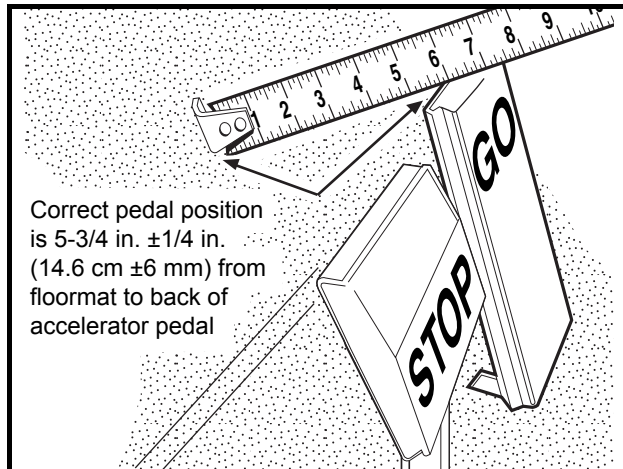
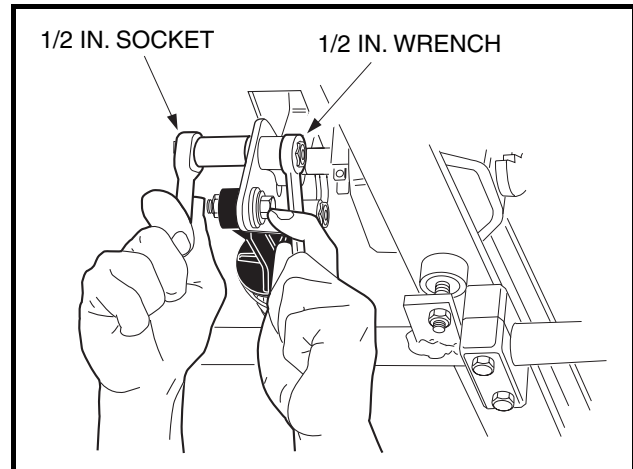
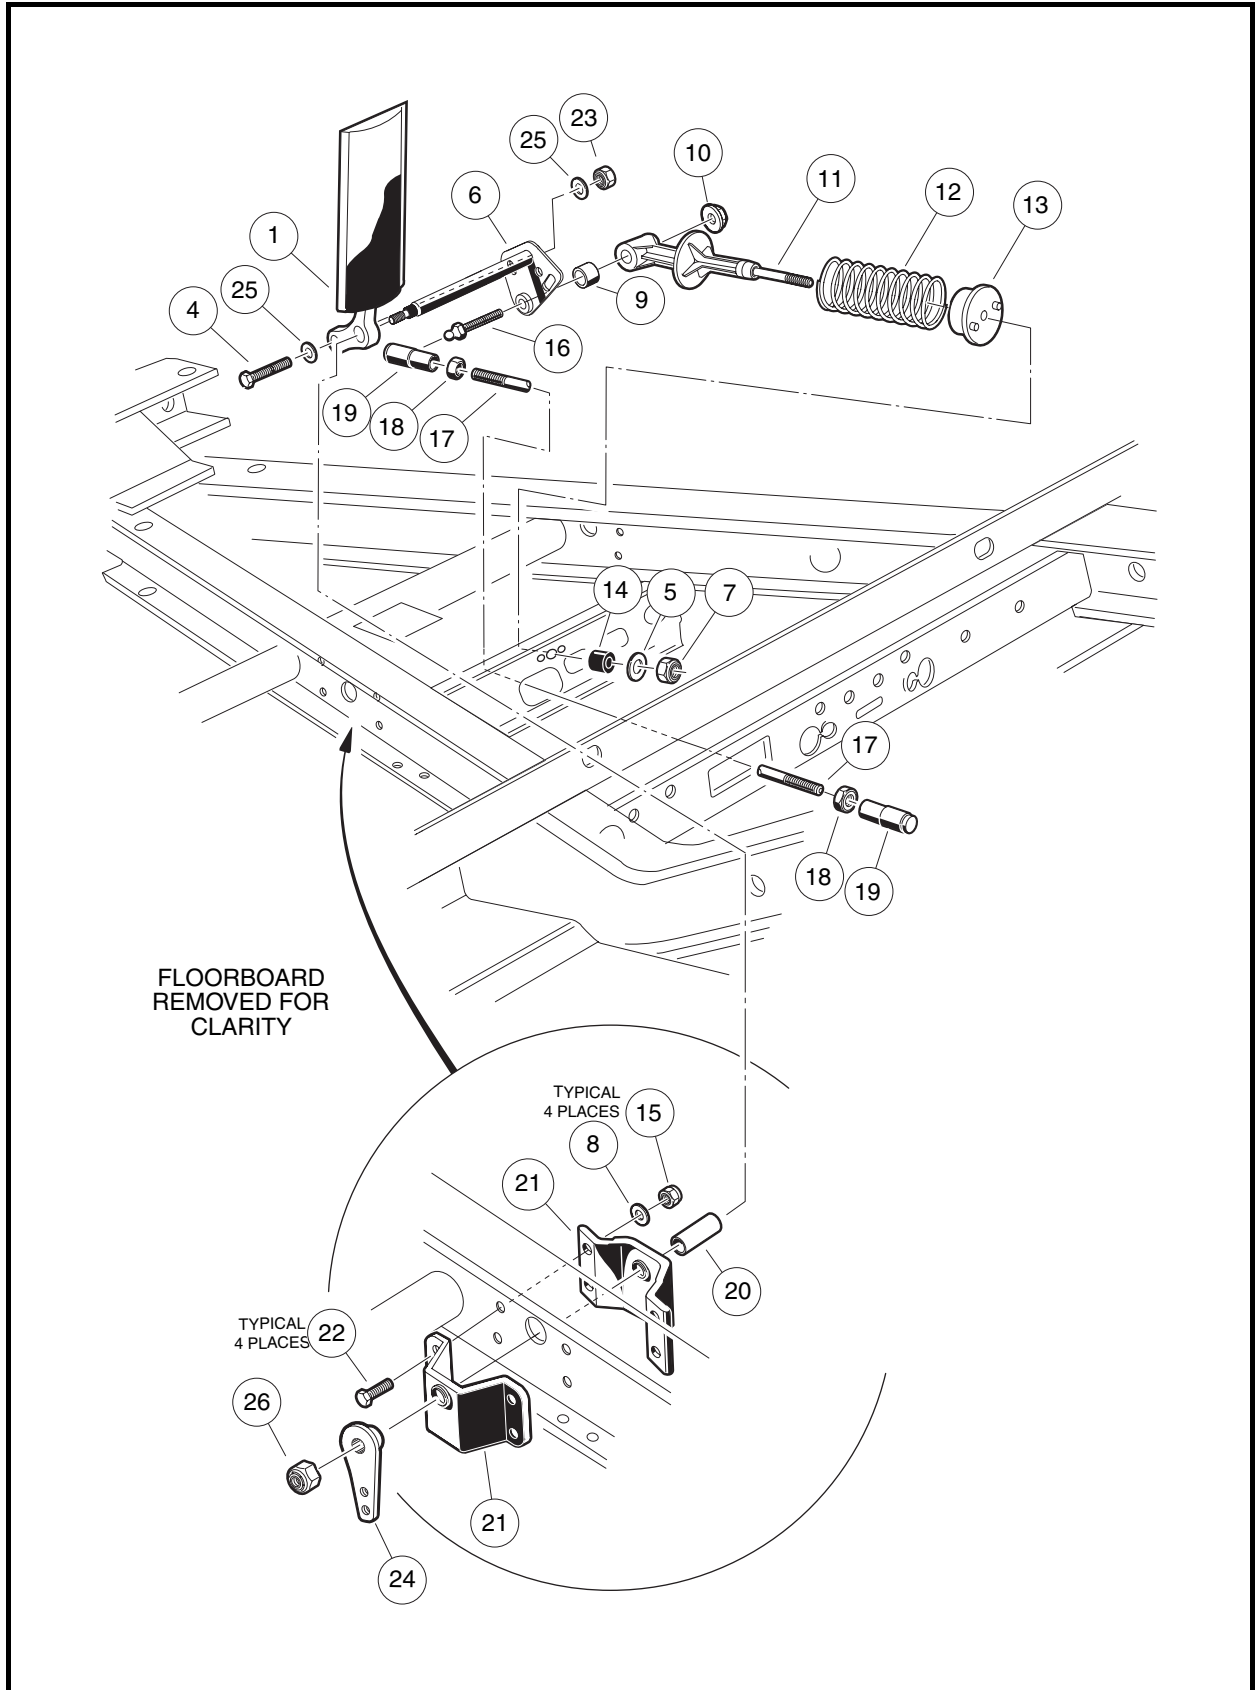

Figure 5-7 Accelerator Pedal Height
Figure 5-8 Accelerator Pedal Adjustment
Figure 5-11 Accelerator Pedal Assembly
4. Use a 9/16-inch socket and 9/16-inch wrench and remove the nut (23), two washers (25), and bolt (4) securing the accelerator pedal (1) to the pivot rod (6) (**Figure 5-11, Page 5-9**).
6. Remove the nut (10) and ball stud (16) from the accelerator pivot rod (6) and spring retainer (11) assembly.
7. Slide the spring retainer (11) off of the accelerator pivot rod.
8. Inspect the pivot support bearing (9), inside the spring retainer, for wear and replace if necessary.
9. Remove locknut (26) from the accelerator pivot shaft.
10. Move the brake pedal slightly and then slide the spacer (24) toward end of accelerator pivot rod, releasing the splined fit between the two. Rotate the spacer (24) and remove from the pivot rod (6).
11. Loosen, but do not remove, the four bolts (22) and locknuts (15).
12. Slide the pivot rod (6) from the accelerator pivot rod supports (21), nylon spacer (20), and accelerator (1). Remove both the pivot rod (6) and the accelerator pedal (1).
13. Inspect the accelerator pivot rod support bearings (21) and all parts for wear or damage and replace as necessary (**Figure 5-11, Page 5-9**).
1. If replaced, position the supports (21) on the vehicle frame and loosely install the four bolts (22), washers (8), and locknuts (15) and finger-tighten (**Figure 5-11, Page 5-9**).
2. With another person, position accelerator pedal (1) through the floorboard and slide the accelerator pivot rod (6) through the upper hole in the pedal, through the nylon spacer (20), and through the two pivot rod supports (21).
1. Measure the distance from the top of the accelerator pedal to the floorboard. If it is within the range of 5-3/4 inches \pm 1/4 inch (14.6 cm \pm 6 mm) (**Figure 5-7, Page 5-7**), adjusting the accelerator pedal is not necessary. Tighten the nylon locknut (23) to 26 ft-lb (35.3 N·m) (**Figure 5-11, Page 5-9**) and proceed to step 8. If adjustment is necessary, proceed to step 2.
4. Loosen the nut and bolt securing the accelerator pedal to the pivot plate (**Figure 5-8, Page 5-7**).
- 6.1. Adjust the distance from the floormat to the back of the accelerator pedal to be 5-3/4 inches \pm 1/4-inch (14.6 cm \pm 6 mm) (**Figure 5-7, Page 5-7**). Tighten nut to 26 ft-lb (35.3 N·m) (**Figure 5-8, Page 5-7**).
- 7.2. Loosen the jam nuts (18) and disconnect the accelerator rod (17) at the accelerator pedal (**Figure 5-11, Page 5-9**). Adjust the length of the rod so the indicated cam edge is parallel with the edge of the electrical component box (**Figure 5-10, Page 5-8**). See following **CAUTION**.
8. Connect the accelerator rod at the accelerator pedal (**Figure 5-11, Page 5-9**).
- 8.2. Hold the ball joint at each end of the accelerator rod (17) with pliers and tighten the accelerator rod jam nuts (18) against each ball joint (**Figure 5-11, Page 5-9**).